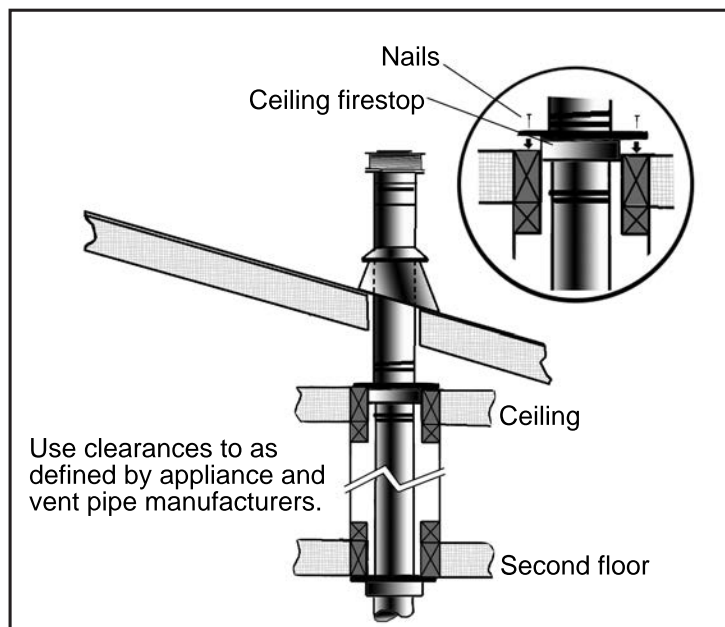

Figure 38: Multi-Story Vent Pipe Installation.
- (c) For multi story installations. A ceiling firestop is required at the second floor, and any subsequent floors (see Figure 38). The opening should be framed to 10" (25.4 cm) x 10" (25.4 cm) inside dimensions, in the same manner as shown in Figure 33.